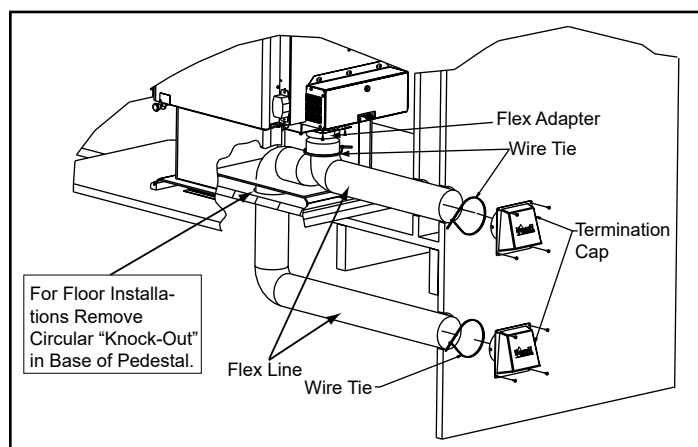
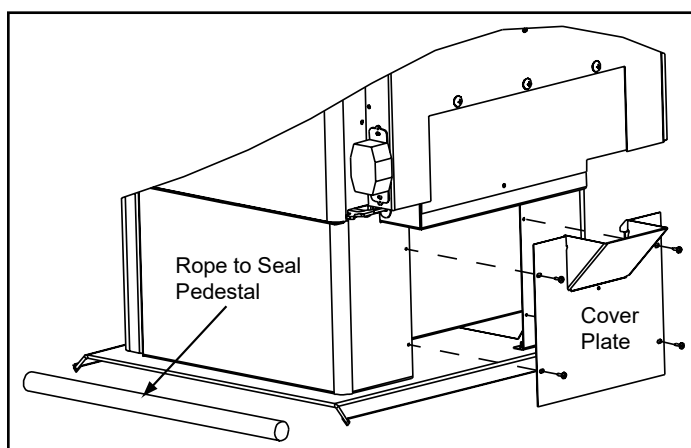

Figure 16.1 - Floor & Rear Installation
Figure 16.2 - Floor Installation Alternative
2. Using a #2 Phillips screw driver attach the flex adapter to the appliance using 4 screws (**Figure 16.1**).
In some instances you may not be able to install the flex pipe as show in **Figure 16.1**. If that is the case, you will need to order SRV7033-041 which includes a cover plate and sealing rope as shown in **Figure 16.2**. The goal is to seal the pedestal so no room air can leak into the pedestal or for cold air infiltration.